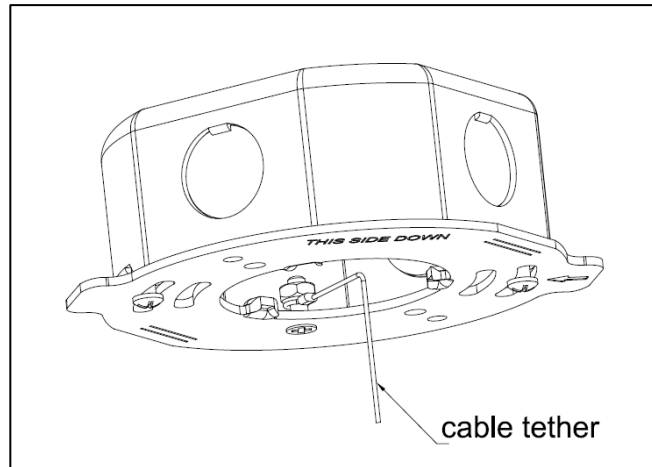

Figure 5
5. After fastening the Mounting Plate to the Junction Box, attach the eyelet end of the safety Tether Cable at the provided 12mm screw location, then thread the tether eyelet through the top end of the 12mm screw and secure eyelet with the supplied nut by tightening it on top of the eyelet shown in *Figure 5*.